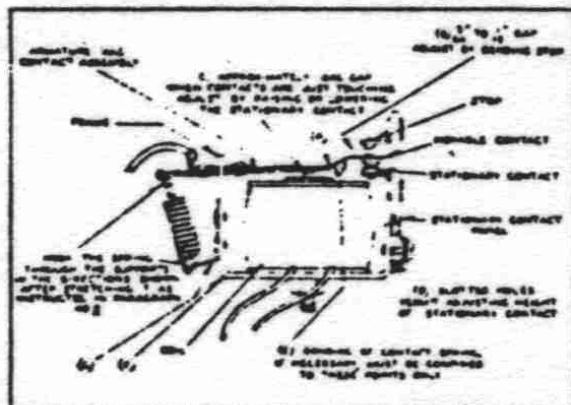

FIG. 37 BATTERY CHARGING RELAY
b. Battery Charging Relay.—The battery charging relay requires little attention. Do not disturb the factory adjustment unnecessarily. If the adjustment has been disturbed, or a new part has been installed, a definite procedure must be followed in making correct adjustments. Refer to (Fig. 37) in connection with these instructions.
(1) With the coil assembly installed in the frame and the nut securely tightened, place the armature and contact assembly in position. The contact spring rests against the armature at the point (A) with a pressure of about one pound. If this tension has been lost, install a new armature and contact assembly.
(2) Install the stationary contact panel with contact. The screw holes are elongated to permit adjusting.
(3) Adjust the gap (C) to approximately .040" by raising or lowering the stationary contact as permitted by slotted holes (D). Measure this gap with a thickness gauge when contacts are just touching.
(4) See that contacts set squarely together when the armature is entirely down and that they make contact at the centers of the contact surfaces. If necessary, bend the frame slightly at point (F) and the contact arm at points (E) to obtain correct alignment. After bending at either point it will be necessary to readjust gap (C).
(5) Adjust gap (B) to between 3/64" and 1/16" by bending the stop as required.
(6) If a new spring is to be installed, it must be stretched very carefully before assembling. The coils of a new spring rest tightly together with some tension. Stretch just enough so a very small clearance remains between coils when released, just enough clearance so coils do not touch. If clearance is too great, discard the spring.
(7) Install the spring with the hooks attached in exactly the directions shown in (Fig. 37).
(8) Adjust the spring tension so that 10 volts direct-current applied to the coil will close the contacts forcibly but 8 volts will not be sufficient to close them. Use 5 cells of the battery to obtain 10 volts, 4 cells to obtain 8 volts. To increase the spring tension, bend the lower loop up closer to the first coil. If more tension is needed than obtainable in this manner, bend the support downward at (G). To reduce the tension, bend the support upward.